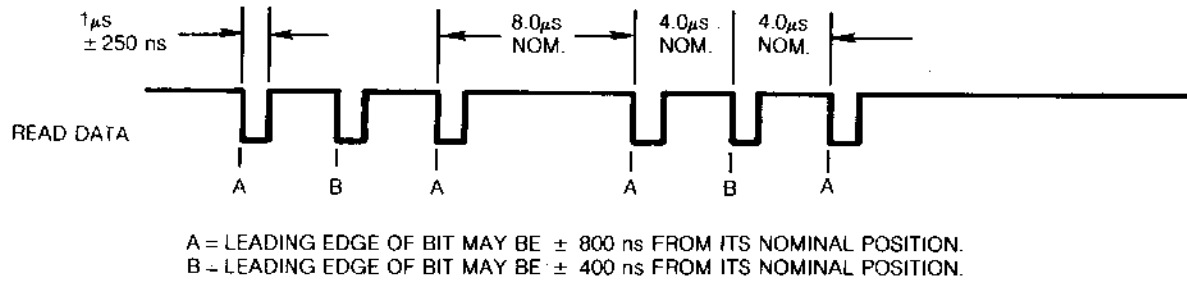

FIGURE 5. READ DATA TIMING (FM)
The timing of Read Data (FM) is shown in Figure 5.